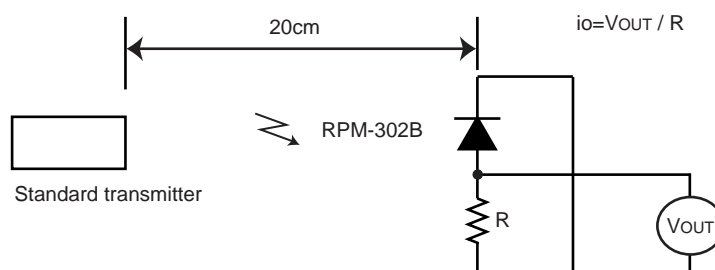

Fig.2 Measurement of standard transmitter proofreading
When standard transmitter output the signal at Fig.1 standard photodiode output become  $i_o=5\mu\text{Ap-p}$  under the measurement condition Fig.2.
- (1) All characteristics of the receiver in this specification are specified by supplying burst wave form (Fig.1) with ROHM standard transmitter (Fig.2).